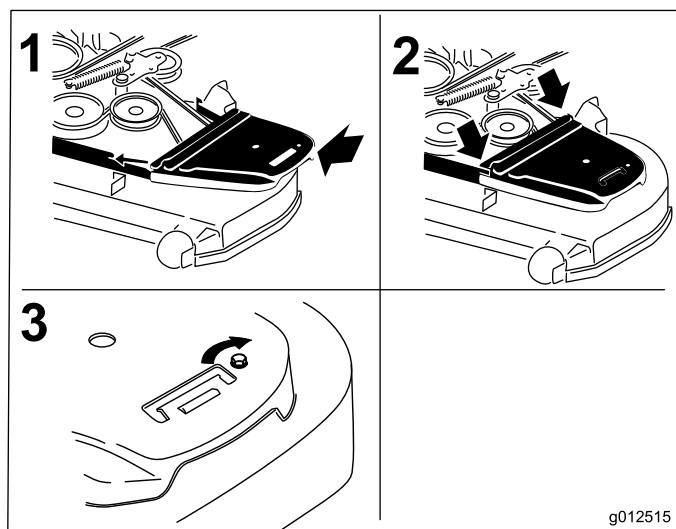

Figure 74
12. Install the belt covers and the bolts attached to them (Figure 74).